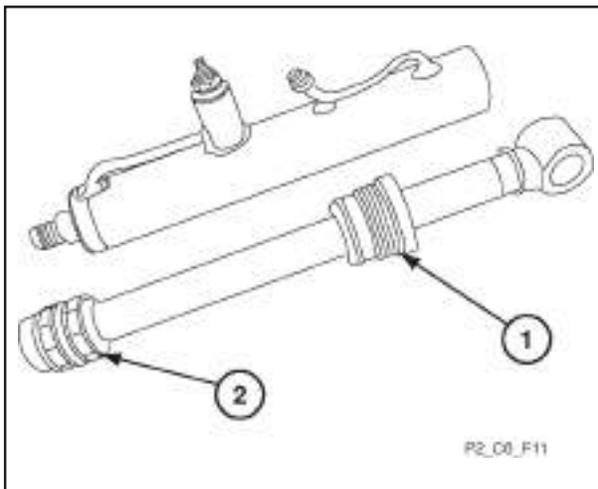

FIGURE 33. TYPICAL CYLINDER COMPONENTS
- The forklift cylinders are all of similar double acting design, the piston and gland sealing arrangements vary between cylinders. Typical cylinder components are illustrated in figures 33 and 34.